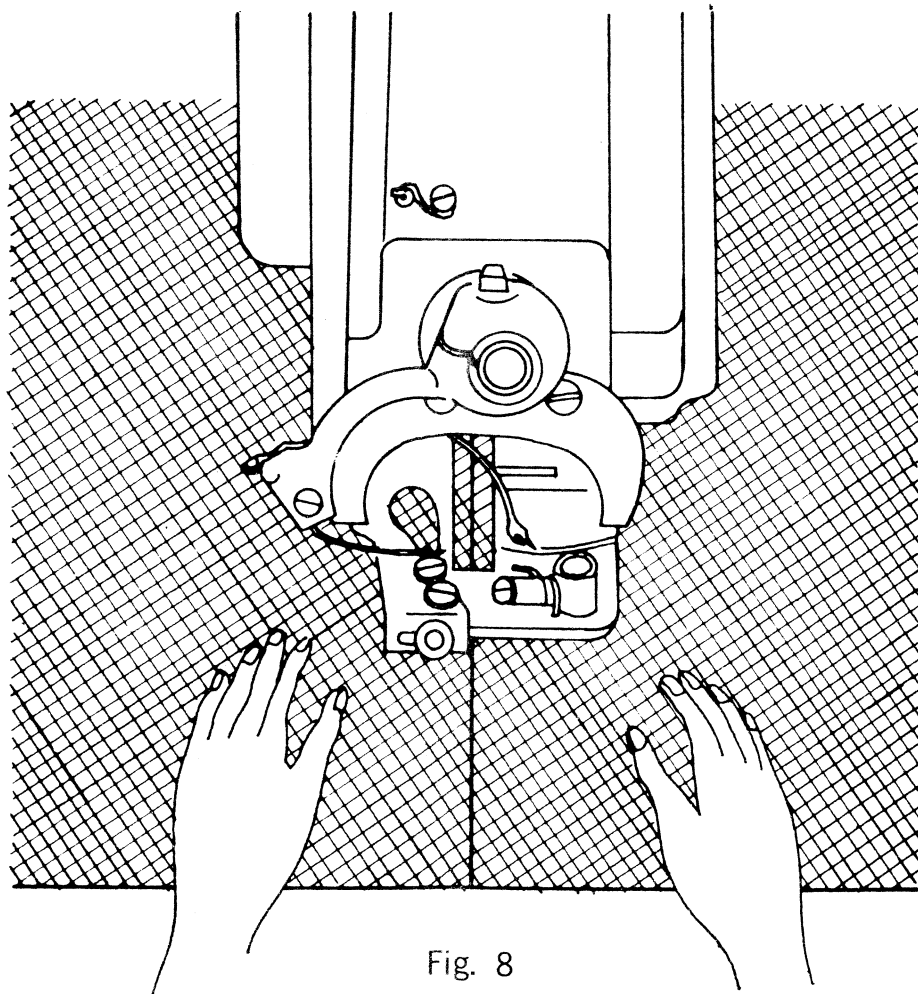

Fig. 8
- d. Begin sewing and continue until the seam is completed. To achieve correct and straight stitching, guide the edge by keeping the folded edge to the edge guide. Watch this part only as this will keep the edge straight. It is not necessary to watch the needle or the stitching. (See Fig. 8)